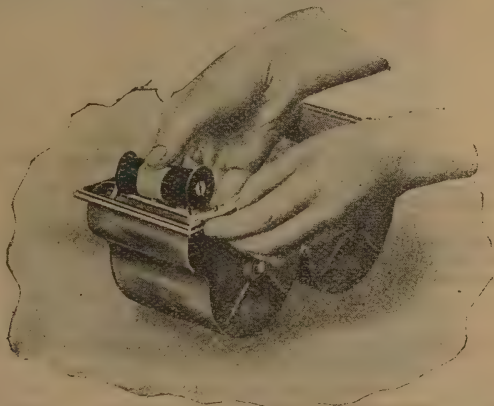

Fig. 5.
V. Place spool in carrier so that the black paper will lead from top as shown in Fig. 5, and then push carrier back into place in machine so that it occupies position shown in Fig. 1.